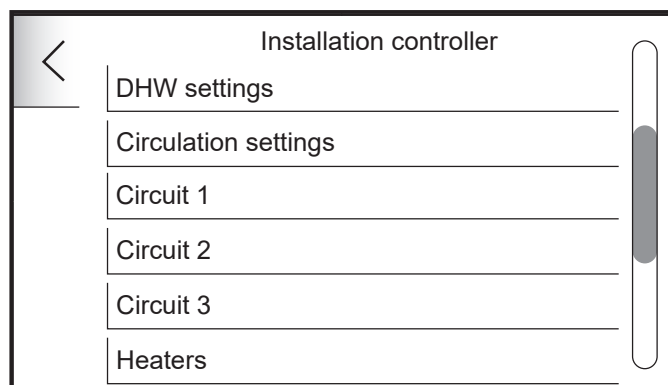

Figure 7-12: Installation controller menu
3. Swiping the Touchscreen display scroll down to the desired circuit and select by tapping. (Refer to Figure 7-12).